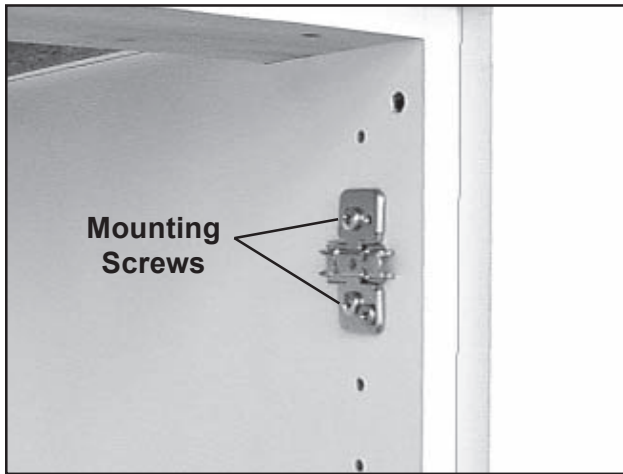

Figure 19. Door Hinge Mounting Plate
3. With a Phillips screwdriver, remove the two screws on the hinge mounting plate and remove the plate from the cabinet wall (Figure 19).